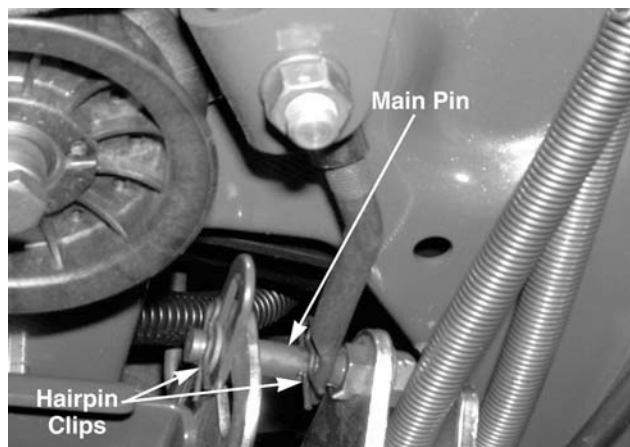

Figure 9-17
2. Remove both hairpin clips from the main pin on the speed control assembly. See Figure 9-17.